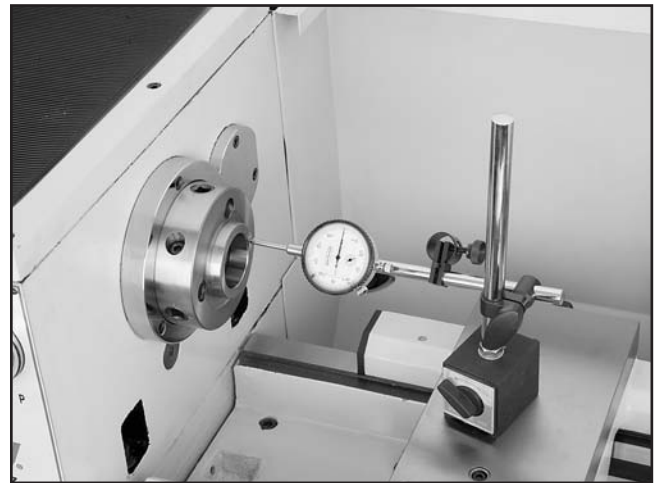

Figure 97. Dial indicator setup.
10. Place a dial indicator on the cross slide and move the carriage toward the spindle until the contact point of the indicator just touches the spindle face, then zero out the dial, as shown in **Figure 97**.